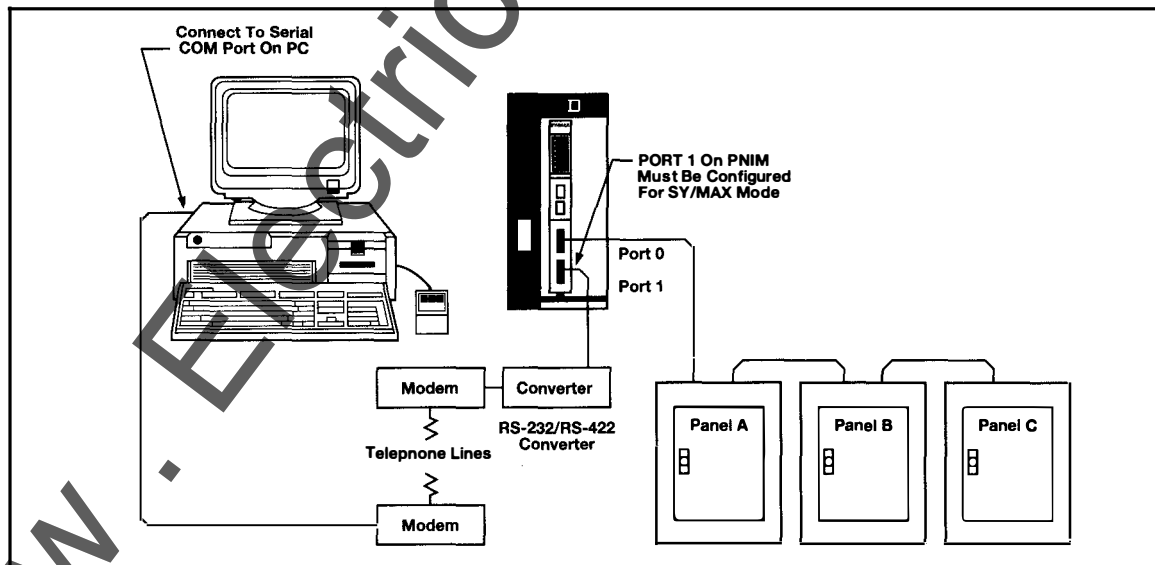

FIGURE 9 - PNIM CONFIGURATION WITH RS-232/RS-422 CONVERTER AND TELEPHONE MODEM
2. If the personal computer is connected to a NIM or PNIM via a modem connection, the NIM or PNIM port must still be configured for the SY/MAX mode. Figure 9 illustrates this point.